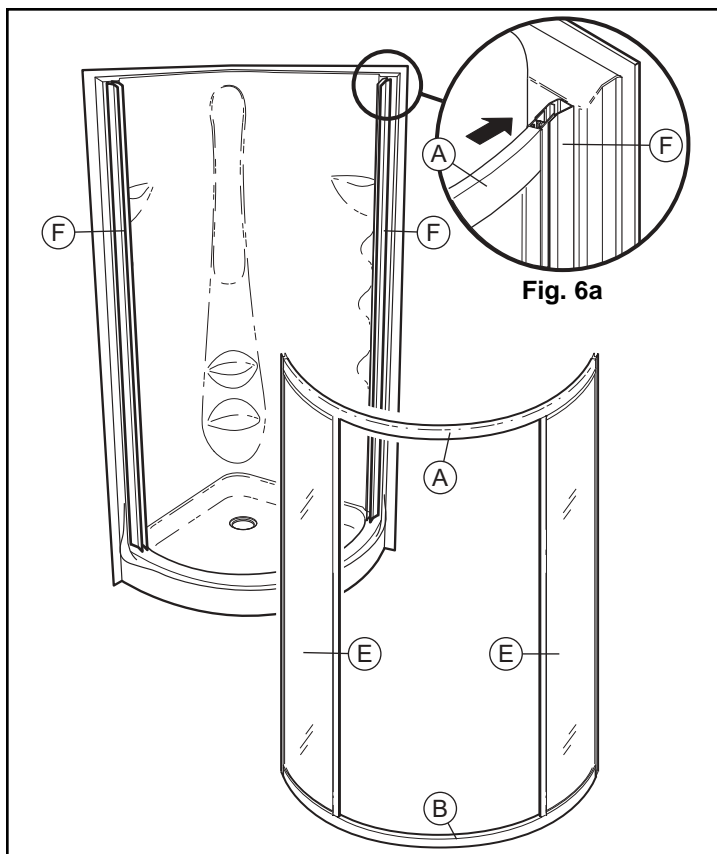

Fig. 6
- Insert fixed frame into wall jambs (F) as shown in **Fig. 6** and **Fig. 6a**.